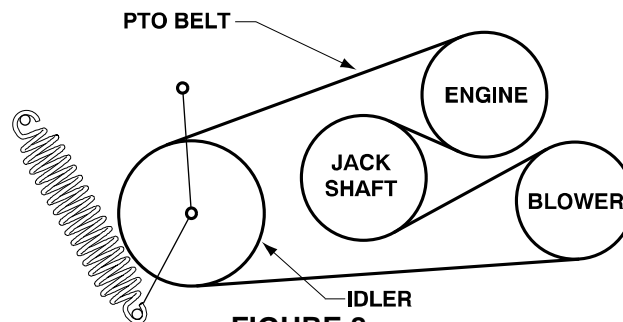

FIGURE 8
f) Route new belts onto sheaves as shown in the decal located on the back of the left drive shield. See Figure 8.